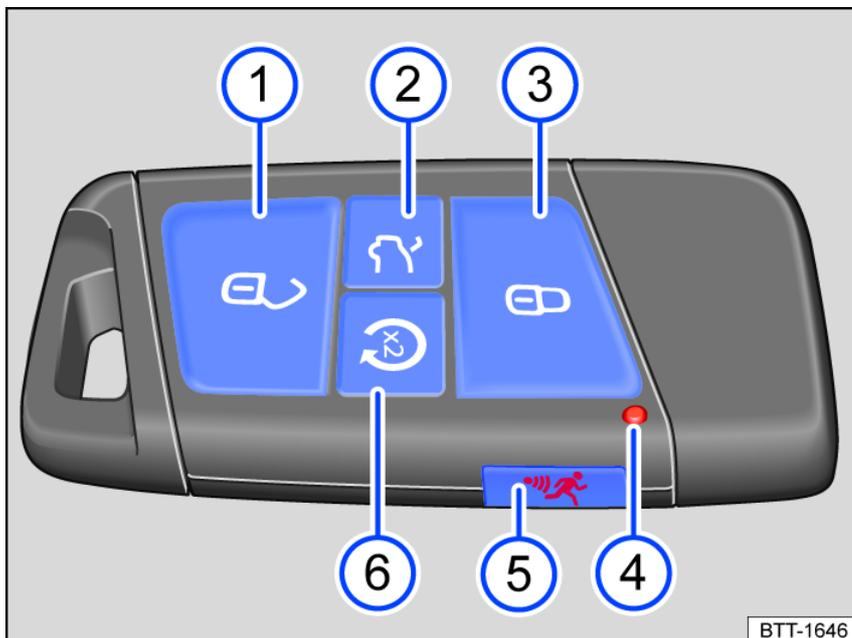

Fig. 46 Vehicle key with remote start relay function.
1. To carry out the remote start ⇒ *Remote start function*, press button (U) once *fig. 46* (3) and press button (K2) twice *fig. 46* (6).